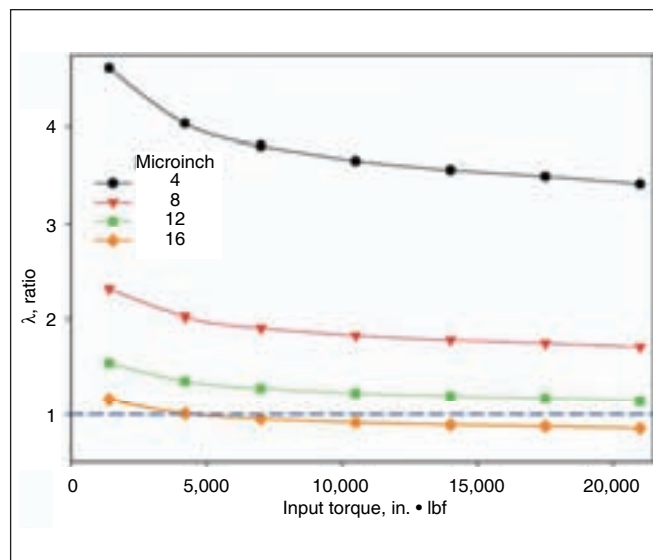
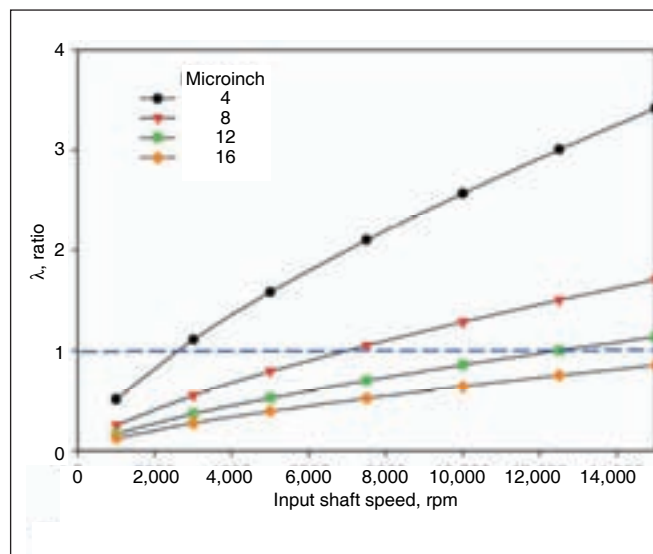

Figure 16—Effect of input torque on  $\lambda$  ratio for four different levels of surface finish at constant input shaft speed.
Figure 17—Effect of input shaft speed on  $\lambda$  ratio for four different levels of surface finish for constant torque.
**Discussion of Results.** The question raised when reviewing the results of this study is “Why didn’t superfinishing improve the performance of this high-speed gear mesh?” To determine why no benefit was found, an analysis of the input –1st idler gear mesh was made to determine the lambda ratio (lubricant film thickness/composite surface roughness of the meshing gears). For the analysis, the bulk temperature (gear and lubricant) was assumed to be 230°F. In Figures 16 and 17, the results of the analysis are shown. In Figure 16, the input shaft speed is held constant at 15,000 rpm and the surface roughness and input torque are varied. Only for the case where the surface roughness is <12 μin. would there be a lambda ratio >1. In Figure 17, the torque was held constant at 100%, and the surface roughness and input shaft speed were varied. In this case, the lambda ratio could be reduced below one for all conditions if the shaft speed was reduced to a low enough level at the full power condition. Therefore, superfinishing of the parts did not take a system that was in the mixed elastohydrodynamic condition and move it to the fully flooded condition where the lambda ratio is <1. In most of the tests in this study, for both as-ground and superfinished tooth surface conditions, the lambda ratio was two or greater.